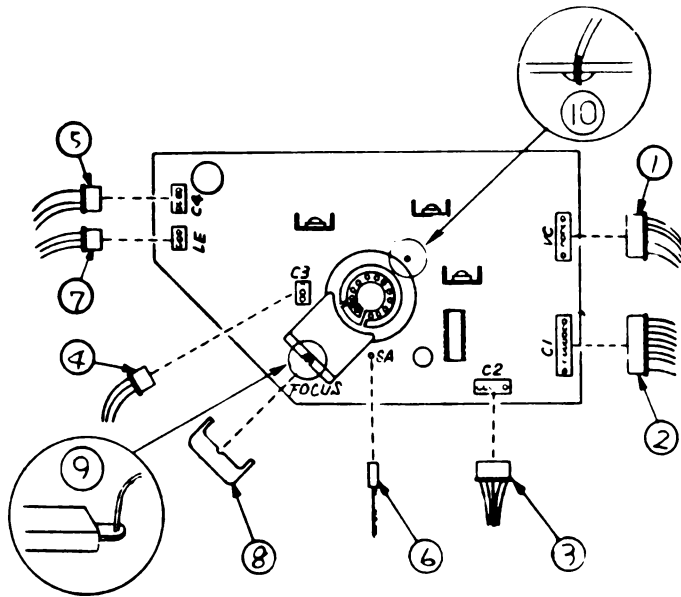

FIGURE 8
- VC Figure 8, #1 (to the main logic board)
- C1 Figure 8, #2 (to the main logic board)
- C2 Figure 8, #3 (to the main logic board)
- C3 Figure 8, #4 (to the main logic board)
- C4 Figure 8, #5 (to the main logic board)
- SA Figure 8, #6 (ground wire around the CRT)
- LE Figure 8, #7 (to the LED assembly)
1. Solder the focus wire (black) to the terminal on the CRT video board (Figure 8, #9). Replace the plastic shield (Figure 8, #8).
2. Solder the screen wire (gray) to the SC terminal on the CRT video board (Figure 8, #10).
- LE Figure 8, #7 (to the LED assembly at the front of the monitor)